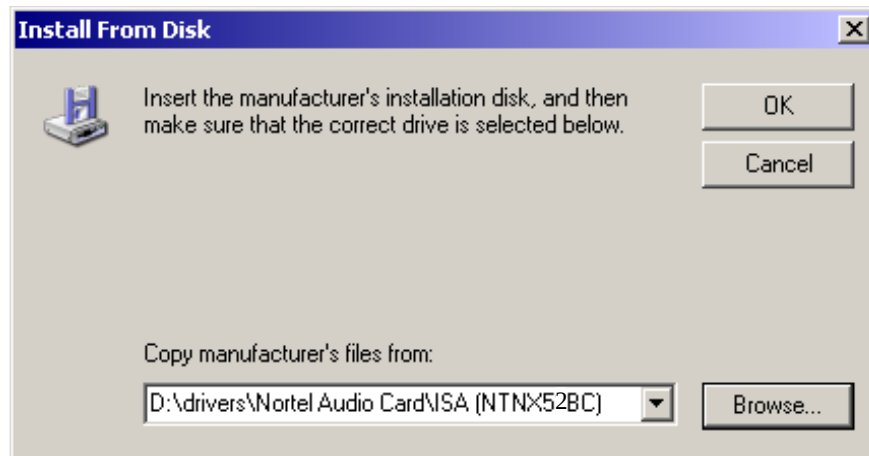

FIGURE 240. Install From Disk, driver directory
21. Select Open. The Install From Disk window will reappear with the location of the files as in Figure 240.